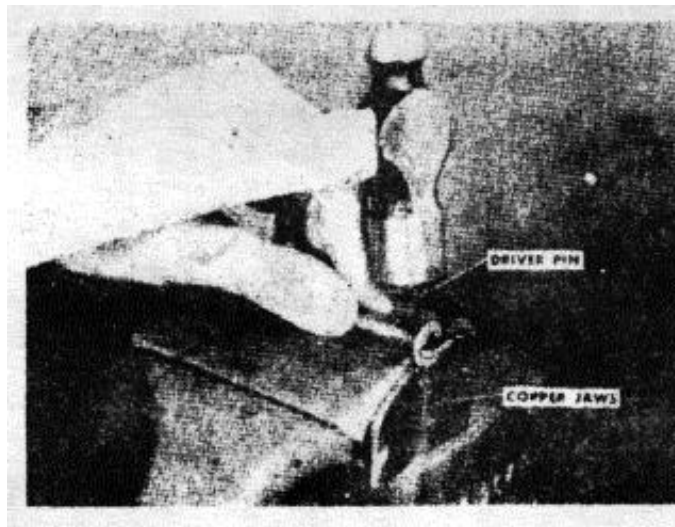

Figure 4-22. Driving in plunger retainer pin
2. Drive the retainer pin through the plunger and plunger driver. Fig. 4-22.